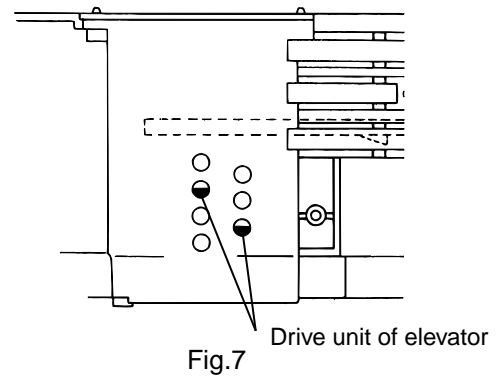

Fig.7
[Caution] In case the driver unit elevator is not at above position, set the elevator to the position as shown in Fig.7 by manually turning the pulley gear as shown in Fig.8.
■ Removing the Capstan belt (See Fig.7)